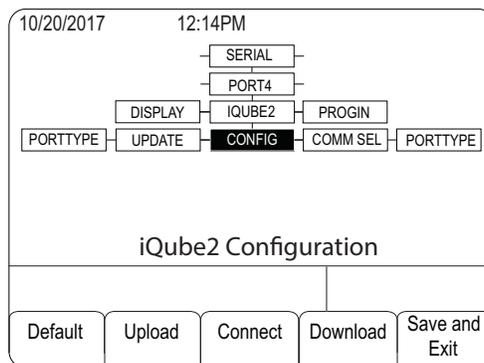

Figure 4. CONFIG Menu
- Navigate to the CONFIG menu and press the **Connect** softkey (see Figure 4). The serial number will show (i.e., 123XX456\*NONE\* \*NONE\* \*NONE\*). If the serial number does not show, check wiring and dip switches.